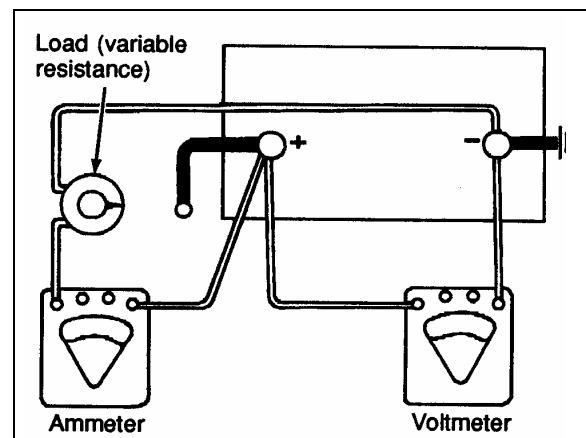

FIGURE 13: LOAD TEST 06064
1. Connect a voltmeter, ammeter, and a variable load resistance as illustrated in figure 13.